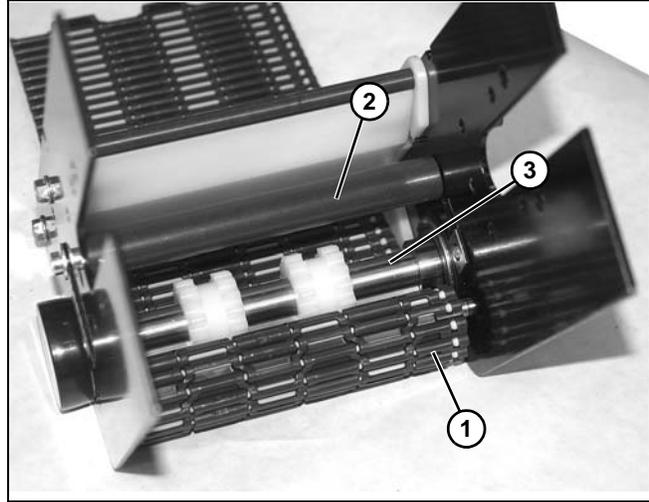

Figure 125
16. Continue to remove belt (Figure 125, item 1) from under tensioning rod (Figure 125, item 2) and from around drive shaft (Figure 125, item 3).